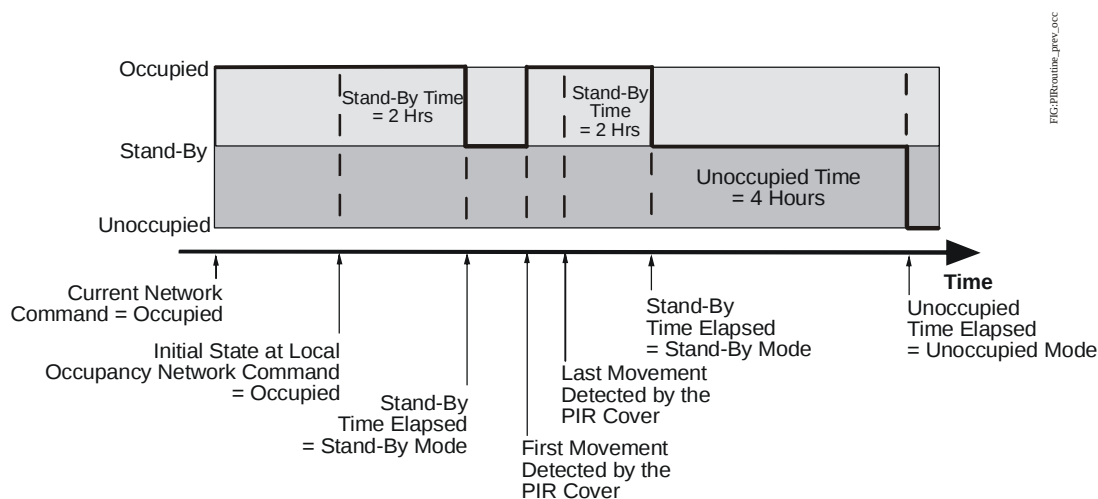

Figure 6: After Receiving Local Occupancy/PIR Network Command from a Previous Occupied State
- From a previous network occupied command: **Occupied** (Figure 6)